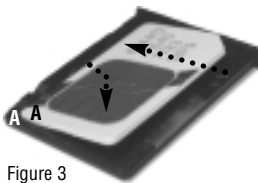

Figure 3
2. Place your SIM with gold contacts upper most into the tray by placing corner A against side A of the SIM tray. See Figure 3.